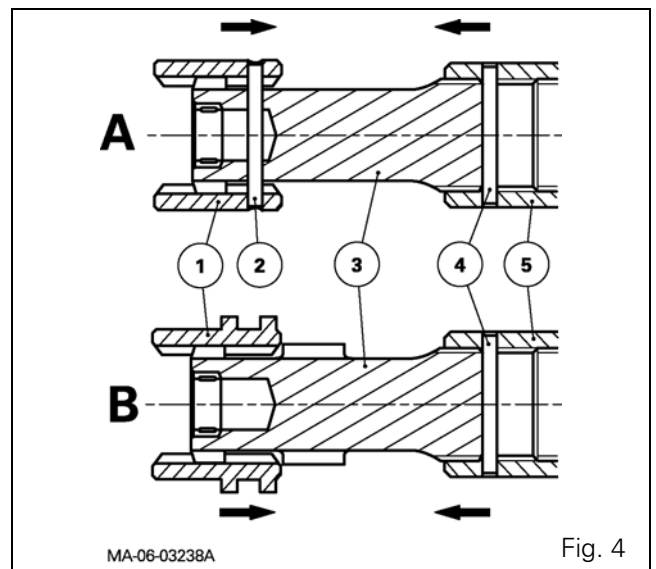

Fig. 4
Tractor with no creeper unit A (Fig. 4)
7. Drive out the double pins (2) (4) from the coupling sleeves (1) (5) (Fig. 4). Slide the sleeves towards each other on the shaft (3) linking the drive pinion (26) and the gearbox output shaft.
Remove the shaft and sleeves assembly (Fig. 4).
Tractor with creeper unit B (Fig. 4)